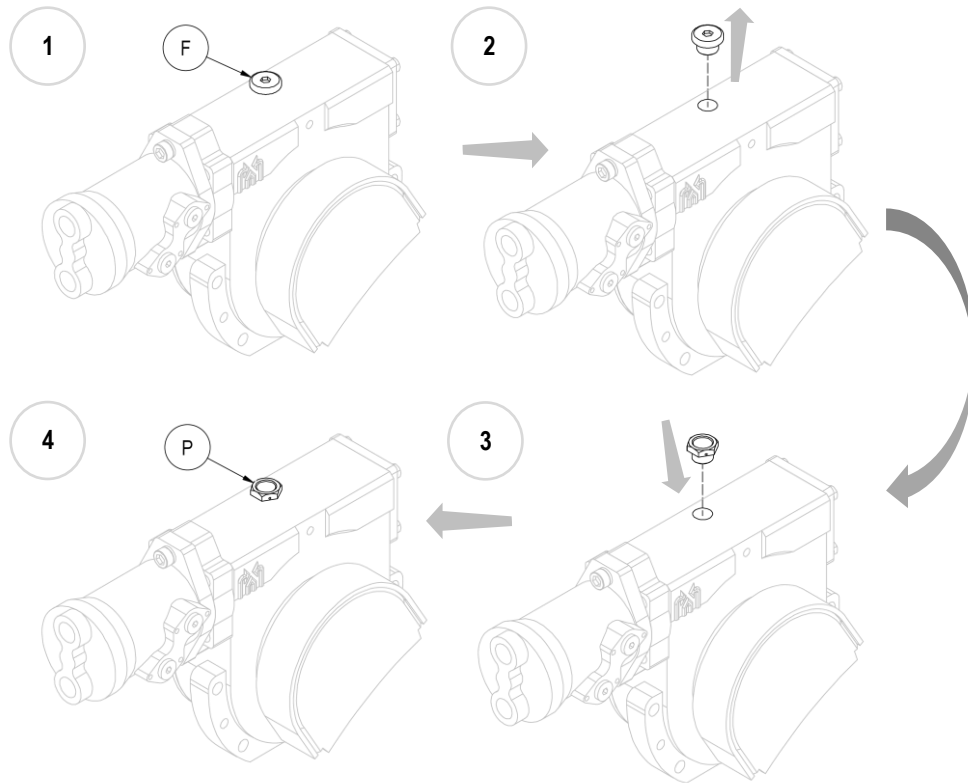

Figure 10
10. **N.B.** With the equipment mounted, before use, replace the blind iron oil filler plug (F) with the plastic one supplied (P), which includes a breather (see *Figure 10*).